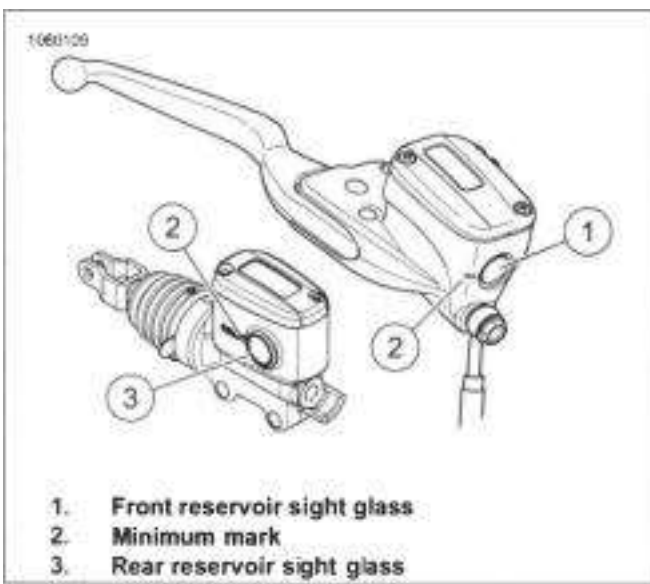
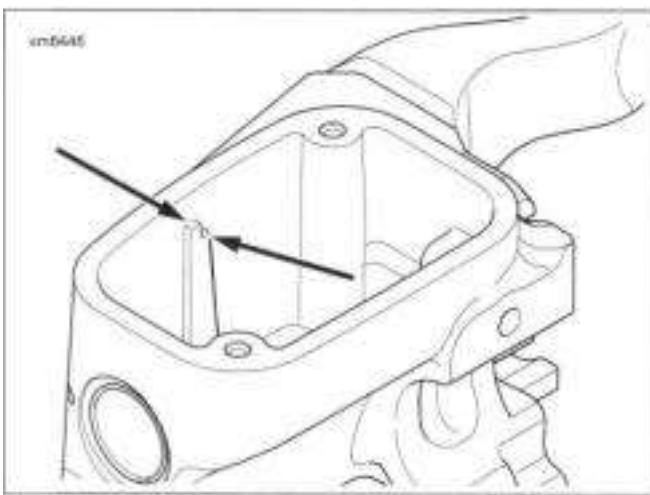
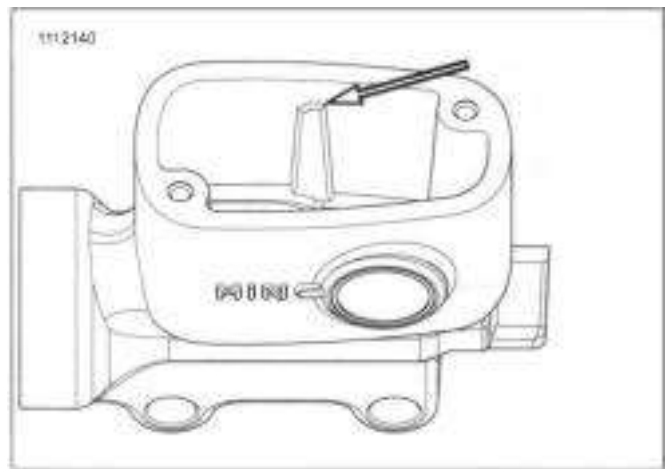

Figure 2-20. Brake Fluid Reservoirs
Figure 2-21. Front Master Cylinder Fill Level
Figure 2-22. Rear Master Cylinder Fill Level
- See Figure 2-20. Check low-level mark on reservoir sight glass. See Figure 2-21. If necessary, add brake fluid to reservoir.
- See Figure 2-20. Check low-level mark on reservoir sight glass. See Figure 2-22. If necessary, add brake fluid to reservoir.